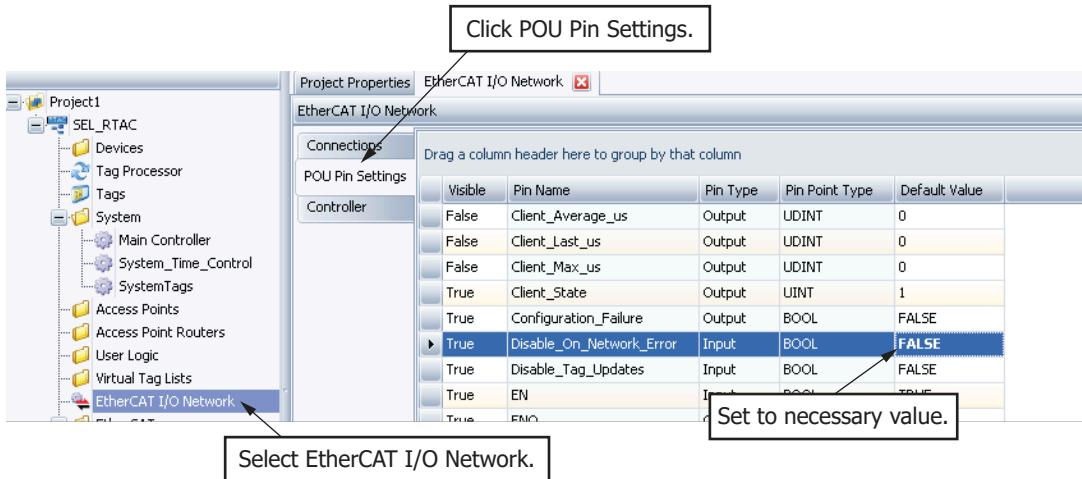

Figure 2.125 Configuring Disable on Network Error Setting
- Step 3. As shown in *Figure 2.125*, find the present value for the setting **Disable_On_Network_Error**. The value will be TRUE initially for each new project. Change the value to FALSE if you prefer that the network continue to operate even if there are network errors or I/O module failures.